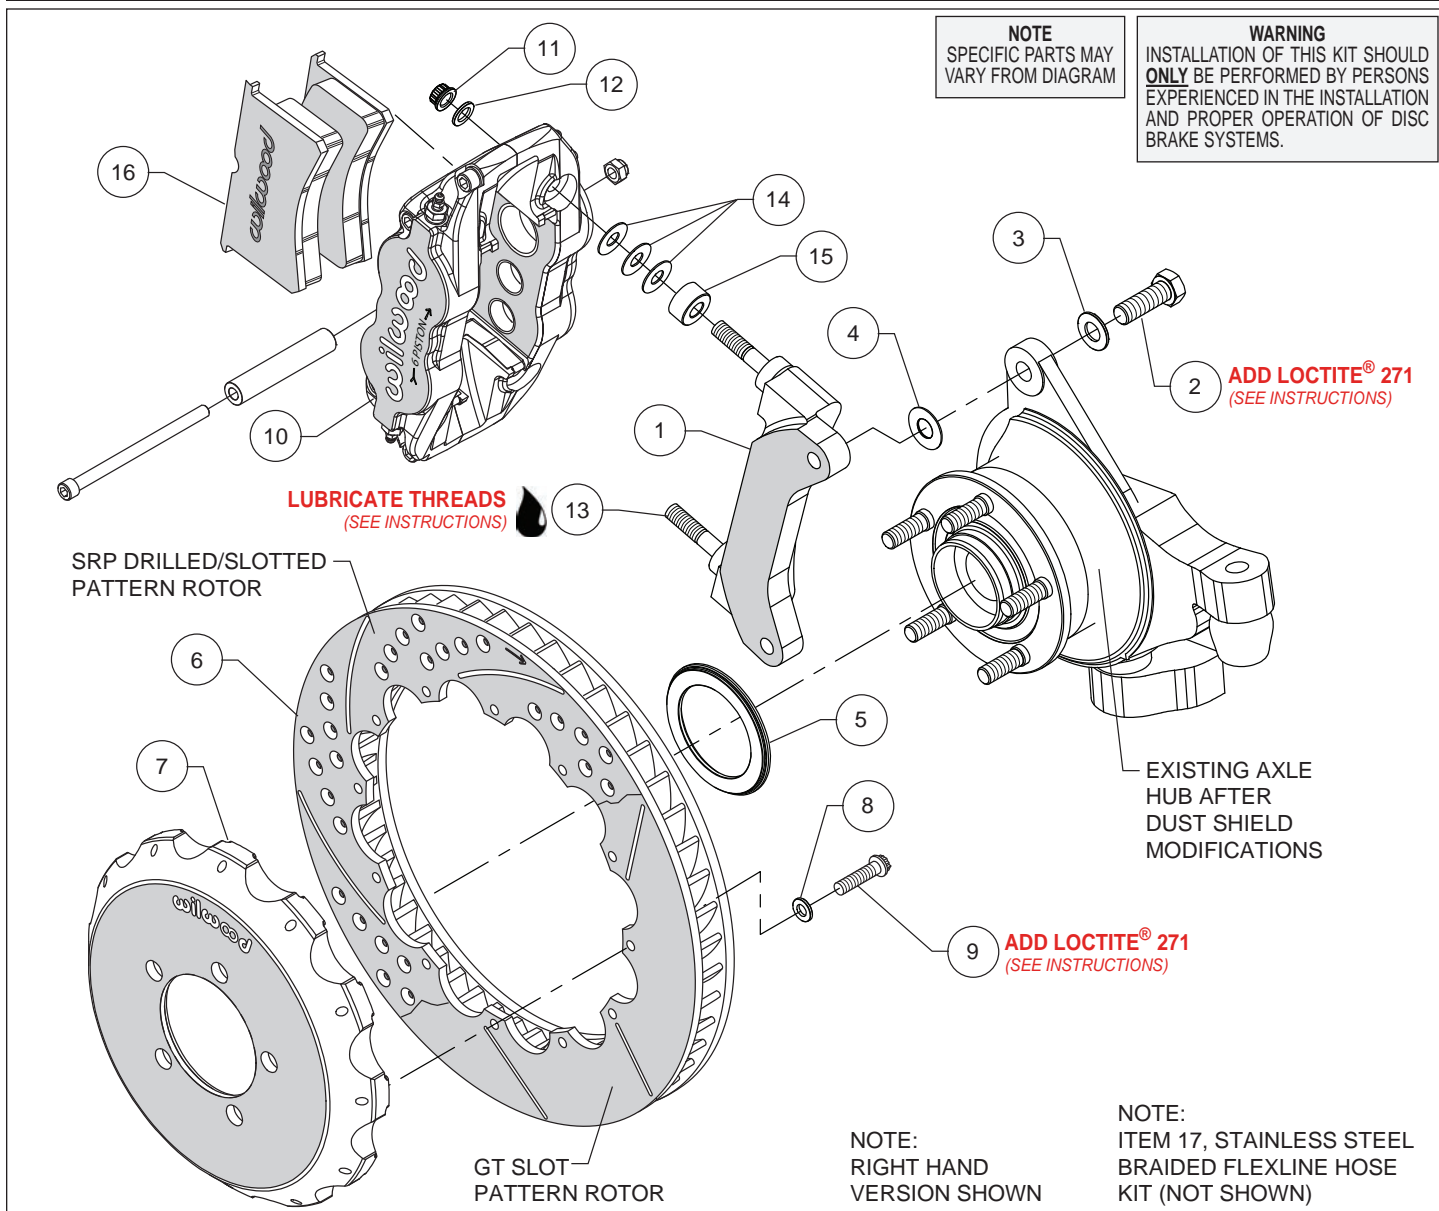
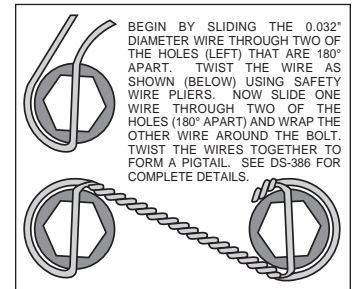

Figure 1. Typical Installation Configuration
Figure 4. Safety Wire Diagram
**Assembly Instructions** (numbers in parenthesis refer to the parts list and Figure 1 on the preceding pages):
- The caliper mount bracket (1) should initially be installed with clean, dry threads on the mounting bolts. Orient the bracket as shown in Figure 1, and install using washers (3) and bolts (2). Initially place one shim (4) on each bolt between the bracket and upright, Figure 1. Temporarily tighten the mounting bolts. **NOTE:** The bracket must fit squarely against the mount bosses on the upright. Inspect for interference from casting irregularities, machining ridges, burrs, etc. Later, after the caliper alignment has been checked, the mount bolts will be secured using red *Loctite*® 271.
- Orient the rotor (6) and the hat (7) as shown in Figure 1 and Photo 1. Attach rotor to hat using bolts (9) and washers (8). Using an alternating sequence, apply red *Loctite*® 271 to the threads, and torque to 155 **in-lbs**. For an added measure of security, the bolts may be safety wired using standard 0.032 inch diameter stainless steel safety wire as shown in Figure 4. Please refer to Wilwood's data sheet DS-386 (available at [www.wilwood.com/Pdf/DataSheets/ds386.pdf](http://www.wilwood.com/Pdf/DataSheets/ds386.pdf)) for complete safety wire installation instructions.
- Slide the rotor registration adapter (5) onto the axle register on the axle hub with the smaller O.D. facing outward, Photo 2. Slide the hat/rotor assembly onto the axle hub. **NOTE:** The hat must fit flush against the axle hub flange or excessive rotor run out may result. Install three lug nuts (finger tight) to keep the hat/rotor assembly in place while continuing with the installation.
- NOTE:** This kit contains distinct right and left hand calipers that must be mounted in a specific direction, as described below. Lubricate the caliper mounting studs (13) with lightweight oil. Initially place three .035" thick shims (14) and spacer (15) on each stud as shown in Figure 1 and Photo 3. Mount the caliper (10) onto the bracket (1) using lock nuts (11) and washers (12), Figure 1. Ensure that the caliper is mounted so that the largest pistons are at the rotor exit end of the caliper, in relation to the direction of rotor rotation. Temporarily tighten the lock nuts and view the rotor through the top opening of the caliper. The rotor should be centered in the caliper, Photo 4. If not, adjust by adding or subtracting shims (4) between the bracket and the upright. Always use the same amount of shims on each of the two mounting bolts. Once the caliper alignment is correct, remove the bracket mounting bolts (2) one at a time, apply red *Loctite*® 271 to the threads, and torque to 60 ft-lb.